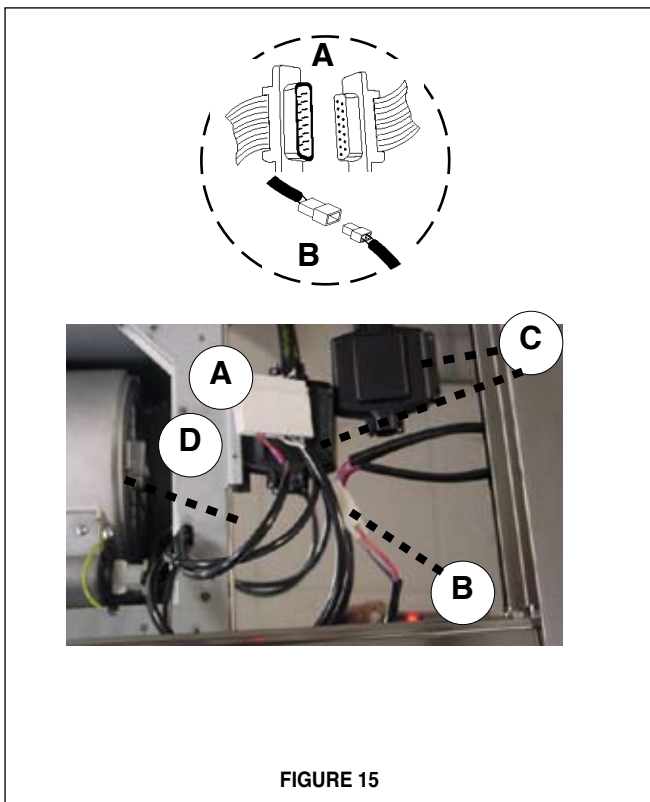

FIGURE 15
5. Connect the CONTROL CABLES together as indicated in A in FIGURE 15. Connect the LIGHT CABLES together as indicated in B in FIGURE 15. Insert the connected CONTROL CABLES (A in FIGURE 15) into the black plastic CONNECTOR BOX (C in FIGURE 15) by connecting the two black plastic pieces using the four screws provided. Using the two longer screws provided, attach the assembled CONNECTOR BOX to the METAL FLANGE (D in FIGURE 15).